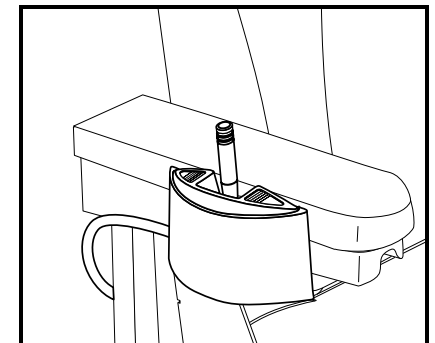

Figure 24. Power Seat Toggle Switch
1. Press forward on the toggle switch to raise the seat. **See figure 24.**